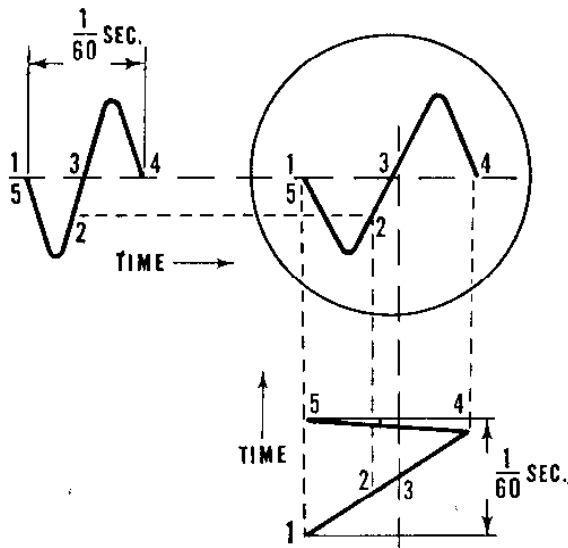
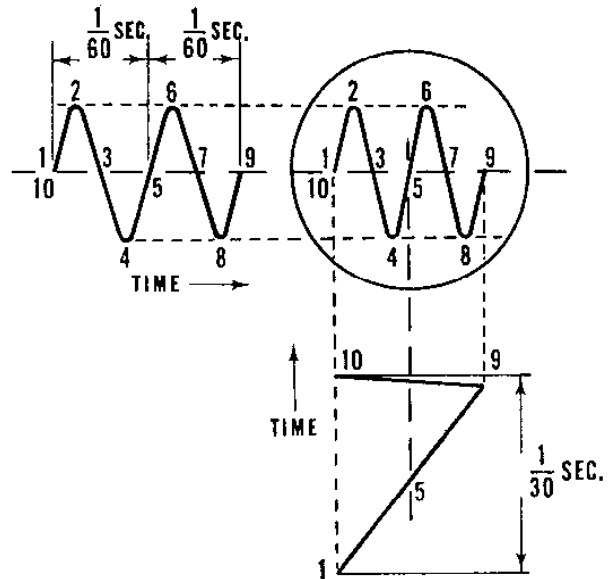

Figure 1. 1 Cycle of Sine Wave vs. Sawtooth
Figure 2. 2 Cycles of Sine Wave vs. Sawtooth
- Fig. 1. 1 Cycle of Sine Wave vs. Sawtooth. . .
- Fig. 2. 2 Cycles of Sine Wave vs. Sawtooth. . . 7
Apparently, if the frequency of the observed signal is equal to the sweep frequency, one complete cycle will be observed on the screen. If the frequency of the applied signal is twice the sweep frequency, two complete cycles will be obtained on the screen and so on. Fig. 1 is a projection drawing of a sine wave applied to the vertical plates and a sawtooth wave of the same frequency applied to the horizontal plates. Fig. 2 is a projection drawing showing the resultant pattern when the frequency of the sawtooth is one-half that employed in Fig. 1.
wave, the intersections would trace out the sine waves shown in the circles. The sections of sawtooth between 1 and 4 in Fig. 1 and between 1 and 9 in Fig. 2 are the sweep sections during which the displays are produced. The sections of the sawtooth between 4 and 5 in Fig. 1 and between 9 and 10 in Fig. 2 are the sections during which the beam is returned very rapidly to the starting point at the left-hand side of the screen. The return trace appears on the screen as a fine horizontal line.